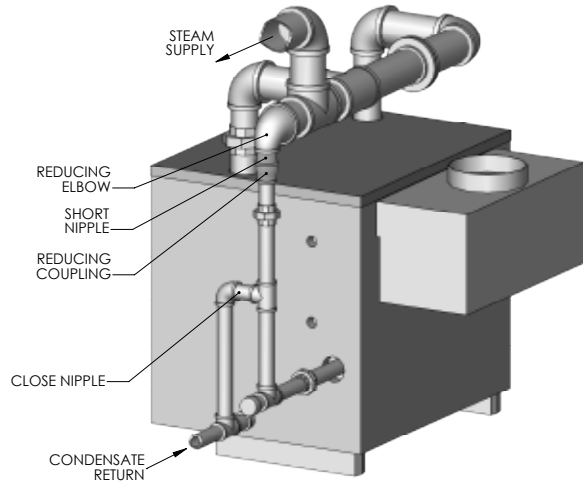
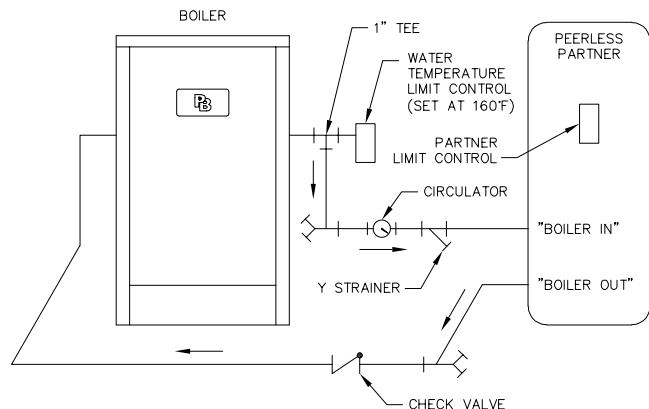

Figure 4.2: Steam Piping – Dual Supply Connections
Figure 4.3: Typical Steam Boiler Indirect Water Heater Piping
2. Install steam supply pipes as shown in Figure 4.2 for Model 63-03 to 64-07 and Figure 4.3 for Model 64-08 to 64-12. See Table 4.1 for pipe size information.
1. See Figure 4.3 for typical installation.